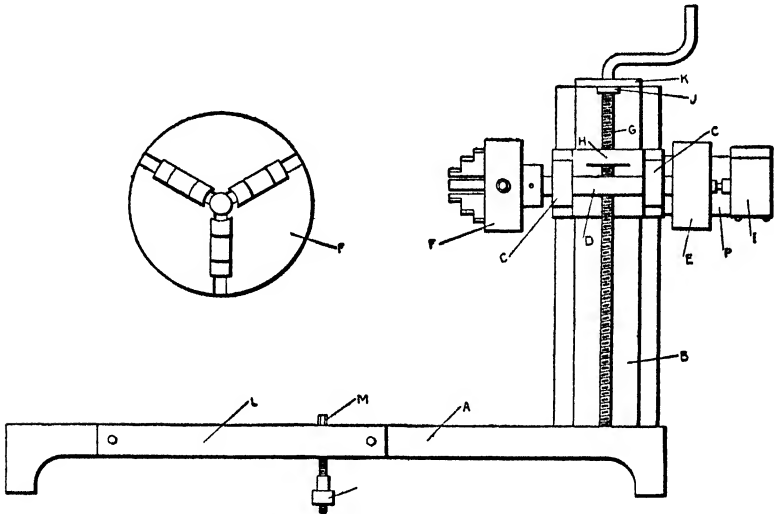
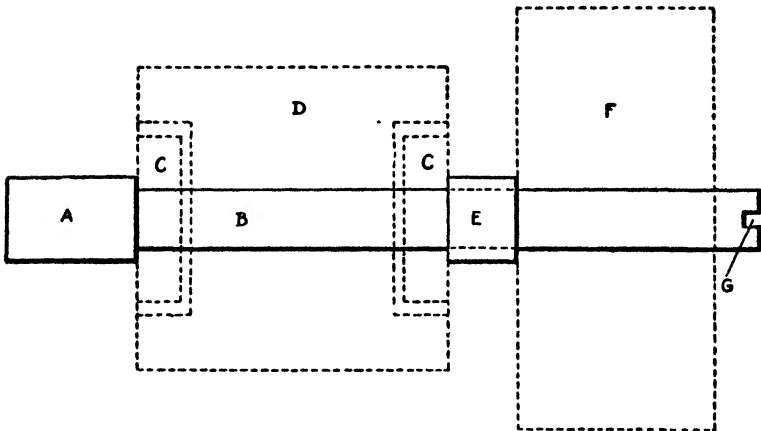

Fig 13. Generator Test Stand
Fig. 15. Pulley Assembly for Generator Test Stand
**Generator Test Stand.** To test and regulate generators properly after repairing and before placing on the car, some means must be provided to run the generator at various speeds. Such a test stand must be universal and easily set up. A test stand meeting these requirements is shown in Fig. 13. The baseplate *A* is cast iron, 10"×16", surfaced on the top. Column *B* is bolted to the baseplate and carries an adjustable head, which holds the driving assembly. The location of the column should be such that the center line of the chuck is in the center of the base. A threaded rod bent into a crank *G* raises and lowers the head; the rod should be  $\frac{7}{16}$  inch with an S.A.E. thread. The lower end of the rod is turned with a  $\frac{1}{4}$ -inch shoulder and fits into a
the shaft, Fig. 15. *A* is the end that fits into the chuck collar; *B* is turned to a good light press fit in the bearings; the collar *E* is placed between the outer bearing and the pulley *F* and prevents the shaft from working out; the slot *G* is to drive the speed indicator; *CC* are the bearing seats; and *D* is the body casting. Between *A* and *C* and between *E* and *C* are two thin brass plates to keep the dirt out of the bearings.
The chuck *F*, Fig. 13, is a 4-inch, three-jawed, universal type, fastened to a flange and pinned to the shaft *D*. Any chuck will do for this, as being out of true will not make much difference. The speedometer is made from a Corbin-Brown head, and the scale should have an 80 m.p.h. limit. The hand is taken off and a blank glued to the old dial. The instrument is then recalibrated
with a speed counter to read r.p.m. Having obtained this data on the blank, a neat dial may be drawn and glued on. The speedometer head is held on the carriage by an angle iron made of  $\frac{1}{8}'' \times 3''$  iron, the coupling of the head fitting into the slot *G*, Fig. 15. Take care to line up the head so that the coupling will be free at all positions of the shaft. Having the speedometer always operative saves time in testing. The pulley *E*, Fig. 13, should be about 4 inches in diameter and with a 2-inch face, while the motor pulley *A* should be 6 inches.
The generators are held in the stand by a motorcycle chain attached to the screw *M*, Fig. 13, and hooked onto a stud. It is tightened by the hand nut *N*, this screw sliding in a slanting guide *L*; this guide is about 8 inches long and allows for different